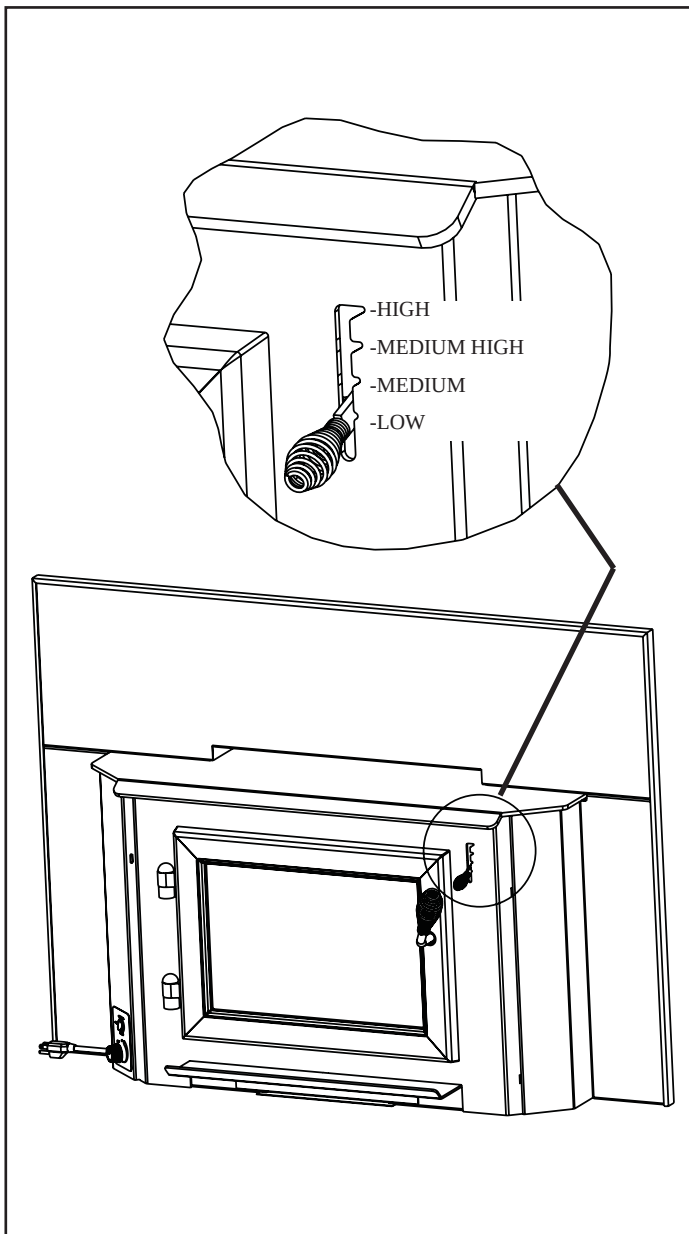

Figure 10.1 - Burn Rate Air Control
Figure 10.1 on page 10.
- It is best to open the Burn Rate Air Control **before reloading**. This livens up the coalbed and reduces excessive emissions (opacity/smoke). **Figure 10.1 on page 10.**
- When the control is raised all the way up it is on the High setting and when pushed all the down it is on the Low setting. **Figure 10.1.**
1. Follow the instructions below for each burn rate for the Burn Rate Air Control. **Figure 10.1.**